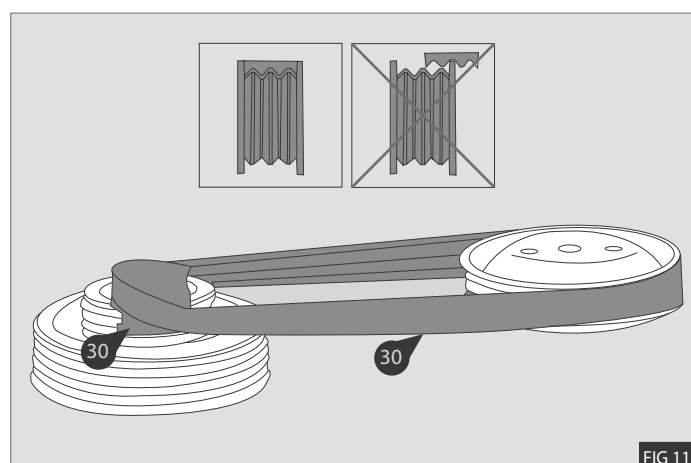

FIG 11
2. Refit the supplied power steering stretch self tensioning drive belt (30) using the installation tool (30) as shown - Fig 11